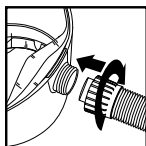

FIGURE 15
25. Reinsert hose into inlet and tighten the locking-nut. **FIGURE 15.**